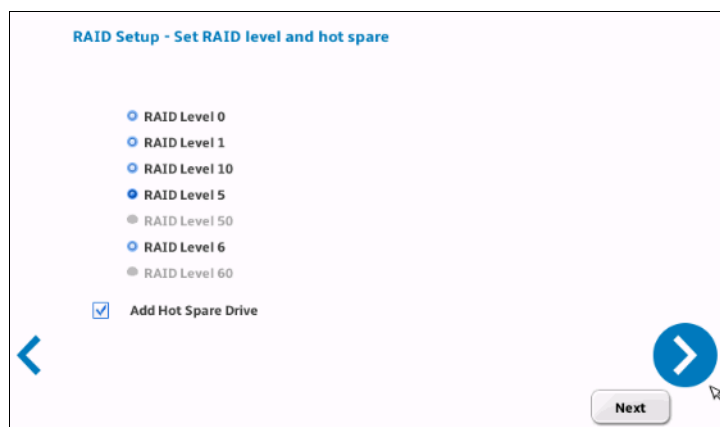

Figure 5-18 Simple RAID configuration
- **Simple configuration:** This will use all the disks drives available to the system to create a RAID array and hot-spare. See Figure 5-18.